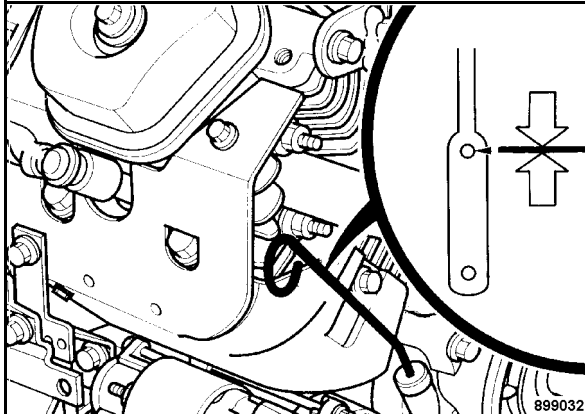

Fig. 59
- Pull the dipstick (Fig. 59) out, wipe it off with a lint-free, clean cloth and reinsert it until it bottoms.